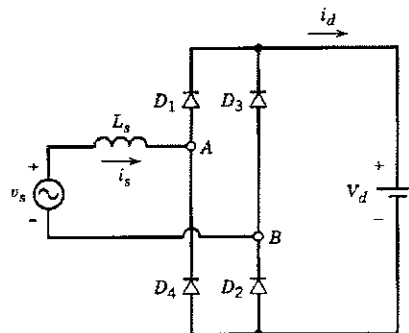

Figure 2
4. In a single phase rectifier shown in Figure2. $V_s=200V$ at 60Hz, $L_s=10$ mH and $V_d=150V$, draw the waveform for i_d and indicate the values of θ_b , θ_f , I_{dpeak} . Also calculate the average value of I_d . 3